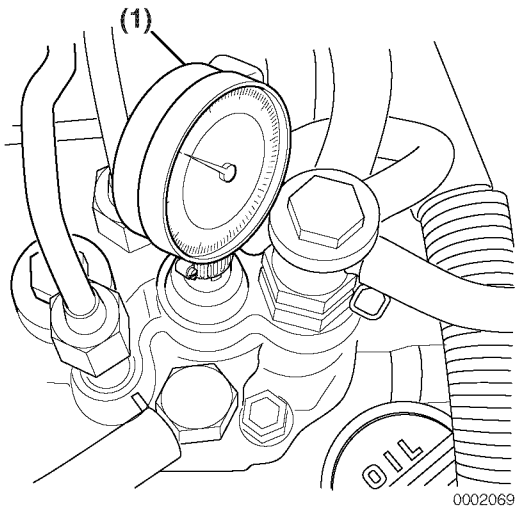

Figure 7-44
3. Note the reading on the dial indicator (**Figure 7-44, (1)**). If the reading is less than 2.5 mm (0.098 in.), the fuel injection timing is “retarded.” If the dial indicator reading is greater than 2.5 mm (0.098 in.), the fuel injection timing is “advanced.”